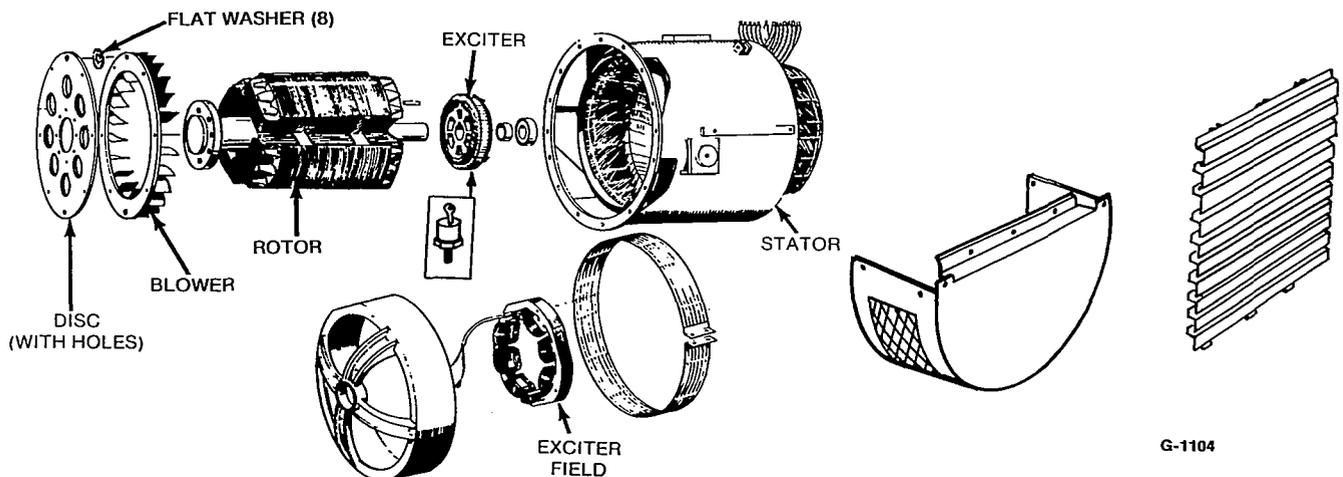

FIGURE 20. GENERATOR DISASSEMBLY
4. Block the rear of the engine in place by supporting the flywheel housing. Remove capscrews securing the generator mounting bracket to the skid base. Remove the generator air outlet screen. Step 5 applies to models using disc with holes (Figure 20).
3. Assemble rotor and stator to engine. Be sure to install the eight flat washers between the disc and blower (Figure 20). Use spray adhesive or heavy grease to hold washers in place during assembly.